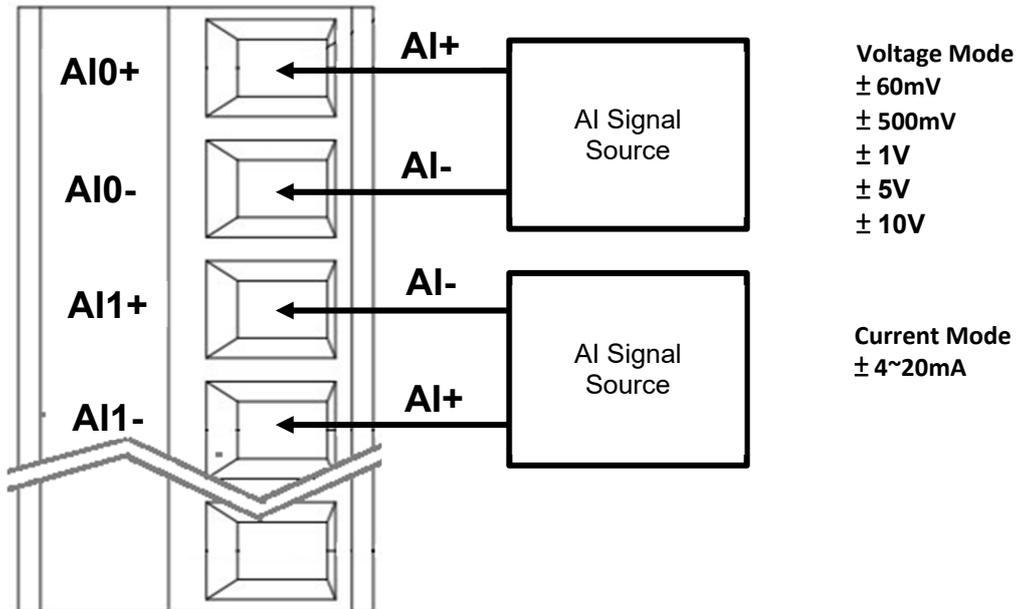

Figure 4.18 - Wiring of AI (Analog Input) Contact
Figure 4.18 shows an example of analog input (AI) contact wiring of the IO5202 in which the AI+ channel is connected to positive end of the AI signal source and AI- channel is connected to the negative end of the AI signal source. Note that the signal source can be an analog output of a sensor. The analog input of IO5202 can be configured to accept either voltage signal mode or current signal mode as described in Section 0.